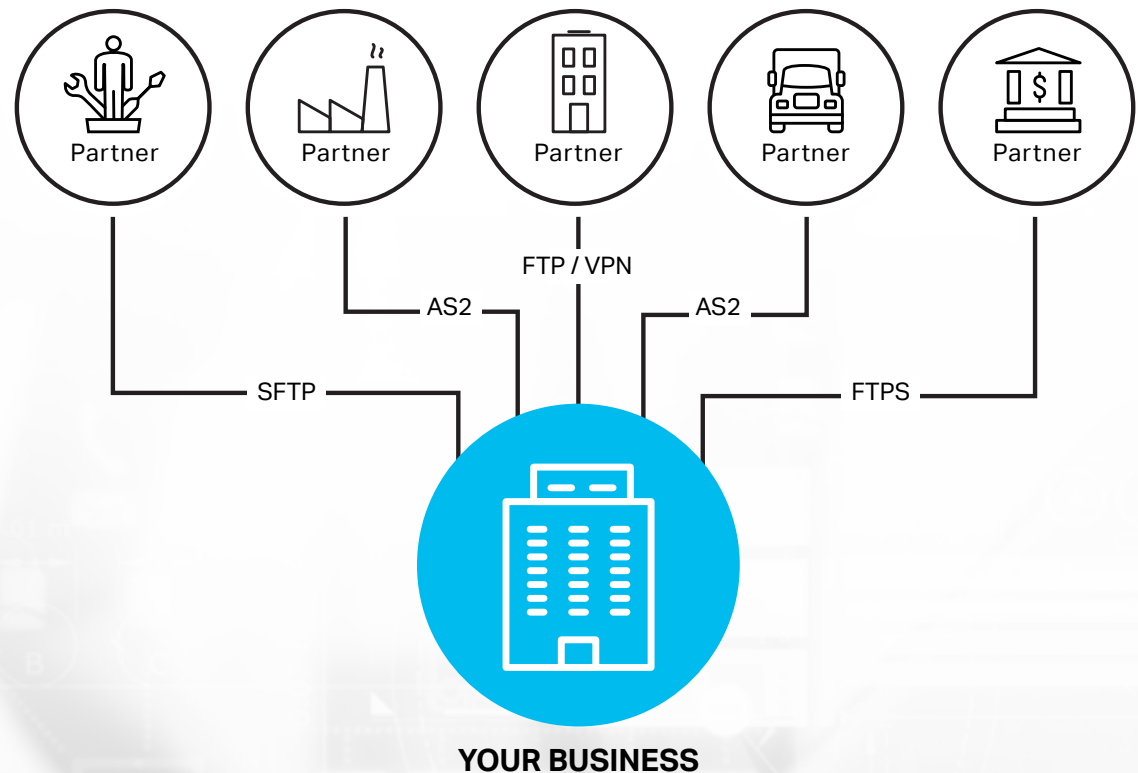

Figure 7: Direct Connection Model
If you choose to implement the direct connection model, you will need to purchase a software package that enables you to use all the agreed upon protocols, such as AS2, SFTP, FTPS. Then you will need to agree with each of your partners on (1) which of these communications methods or protocols you and the trading partner will use and (2) the specific protocol settings or options to be used when exchanging your files of EDI documents. Figure 7 illustrates the direct connection scenario. This model can be very complex due to the wide variety of communications protocols that must be used and supported. Very few businesses today connect directly to all their trading partners.